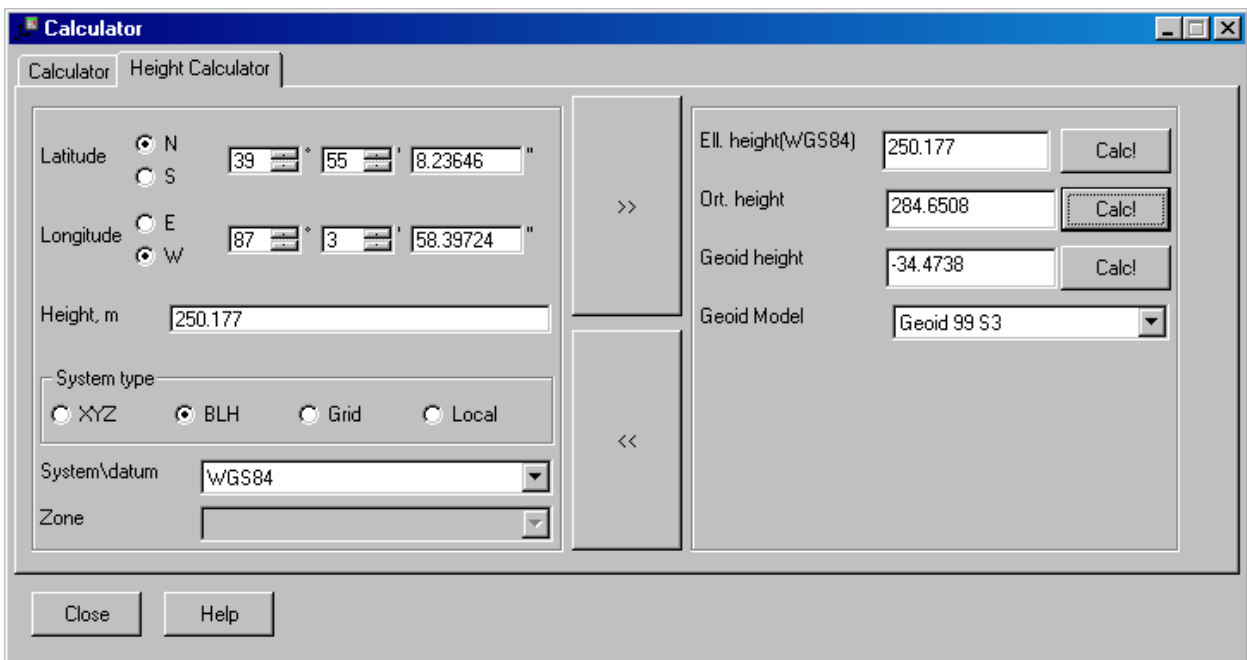

Figure 8-2
- A global geoid model has been imported into PINNACLE (see Figure 8-2) or